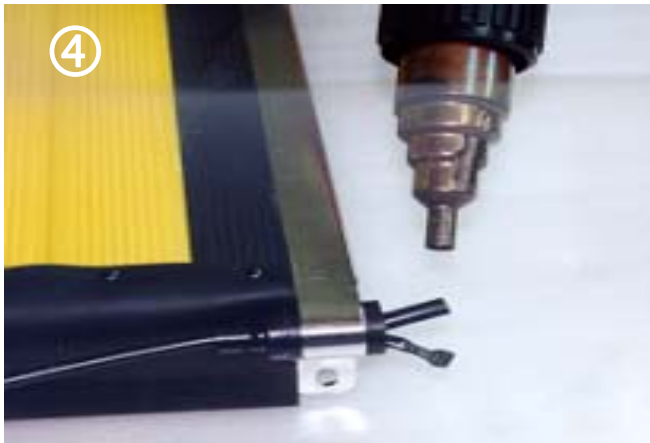

Figure 19 - Maintenance / Contact replacement IV
- Extract the tube from the duct and shrink it with a dryer as per Figure 19 (maintenance material 2924.621 or 2924.622).
- Replace cap (2).
5.2.4 Replacement of a PVC profile (4)